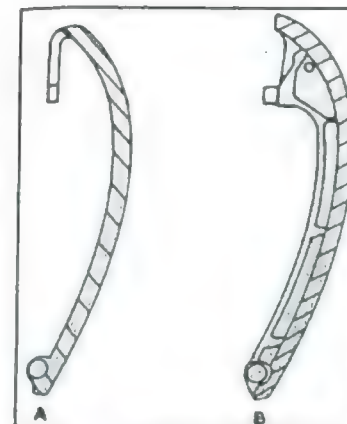
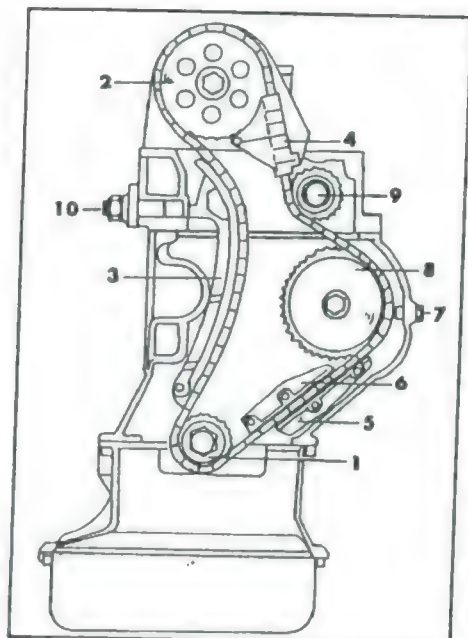
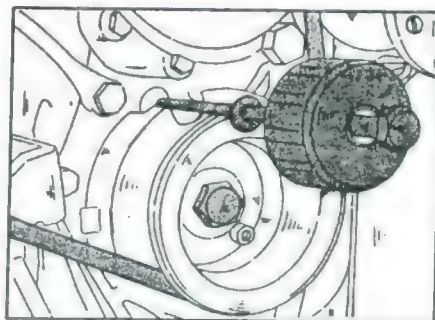

Fig. 9.21 – View of the tensioning rail. "A" shows the earlier version, "B" the later version.
Fig. 9.22 - View of the timing mechanism.
Fig. 9.24 - Removal of the bearing bolt for the tensioning rail, using an impact hammer and a threaded adaptor.
- Depending on the shape of the tensioning rail, treat the chain tensioner as follows: If the tensioning rail has the shape "A" in Fig. 9.21, remove the chain tensioner completely; if the tensioning rail has the shape "B", slacken the thrust bolt of the chain tensioner. Section 9.2.2 gives further details of these operations.
Refit the chain tensioner as follows. Fig. 9.22 shows where the tensioner is located, together with other parts of the timing mechanism:
Fig. 9.22 shows the Arrangement of the timing chain. The following operations can be carried out by referring to this illustration. Note the following points before commencing any operation:
The location of the tensioning rail can be taken from Fig. 9.22. As already mentioned, one of two types of tensioning rails can be fitted. The second tensioning rail "B" in Fig. 9.21 can be used in place of the older type, if the rail is replaced. The new tensioning rails are marked to prevent interchanging them between a 4-cylinder and 5-cylinder engine. The rail for the engine fitted is not drilled at the top, as can be seen in Fig. 9.21, view "B". It is also wider.
- If the engine is fitted with the later-type tensioning rail (view "B", Fig. 9.21), push back the thrust bolt of the chain tensioner.
- Fit the slide hammer with a suitable threaded adaptor into the end of the bearing bolt and withdraw the bearing bolt by hitting the weight of the slide hammer against its stop (Fig. 9.24). Remove the tensioning rail towards the top.
The position of the slide rails is shown in Fig. 9.22. To remove a slide rail, a slide hammer with a suitable, threaded adaptor is required, to remove the bearing bolts. The bolt is screwed into the end of the bearing bolt and the impact hammer (slide hammer) attached to the end of the bolt (Fig. 9.24). Provided that these tools can be obtained, the rails can be removed as described below. Remove the slide rail (4) in Fig. 9.22 as follows:
withdraw the slide rail towards the top, after the bearing bolt, has once more been withdrawn with the slide hammer, similar as shown in Fig. 9.24.
Replace the slide rail (6) in Fig. 9.22 as follows:
Replace the slide rail (5) in Fig. 9.22 as follows: